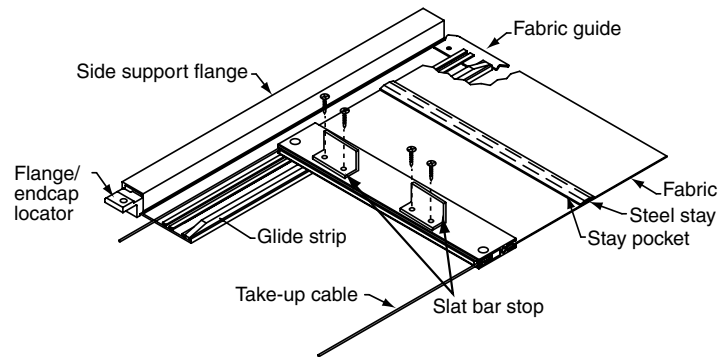

Figure 4
- ⑥ Attach short end of "L"-shaped Stay Bar Stops to Stay Bar (Figs. 4 and 11).
- ② If the unit is to be inside (jamb) mounted, then go to step 4. If the unit is to be outside (face) mounted, then install one fabric guide at the fabric end of each side support flange (see Fig. 4). Make sure the bevel, or bent portion, is placed so that it points away from the fabric when the shade is closed.
- ⑤ Install the other end of the cable into the take-up reel as described in steps 2 and 3 above.
- ⑥ Operate the unit before trimming the cable end (s). The length of cable may be adjusted to provide a hard stop in the fully open position.
- ⑦ If the operator turns the shade in the wrong direction when open, the slack will cause the cable to take-up on the wrong side of the roller.
- ⑧ If you have not already done so, attach short end of "L"-shaped Stay Bar Stops to Stay Bar (Figs. 4 and 11).
- ⑨ Replace the headbox covers and retaining screws.